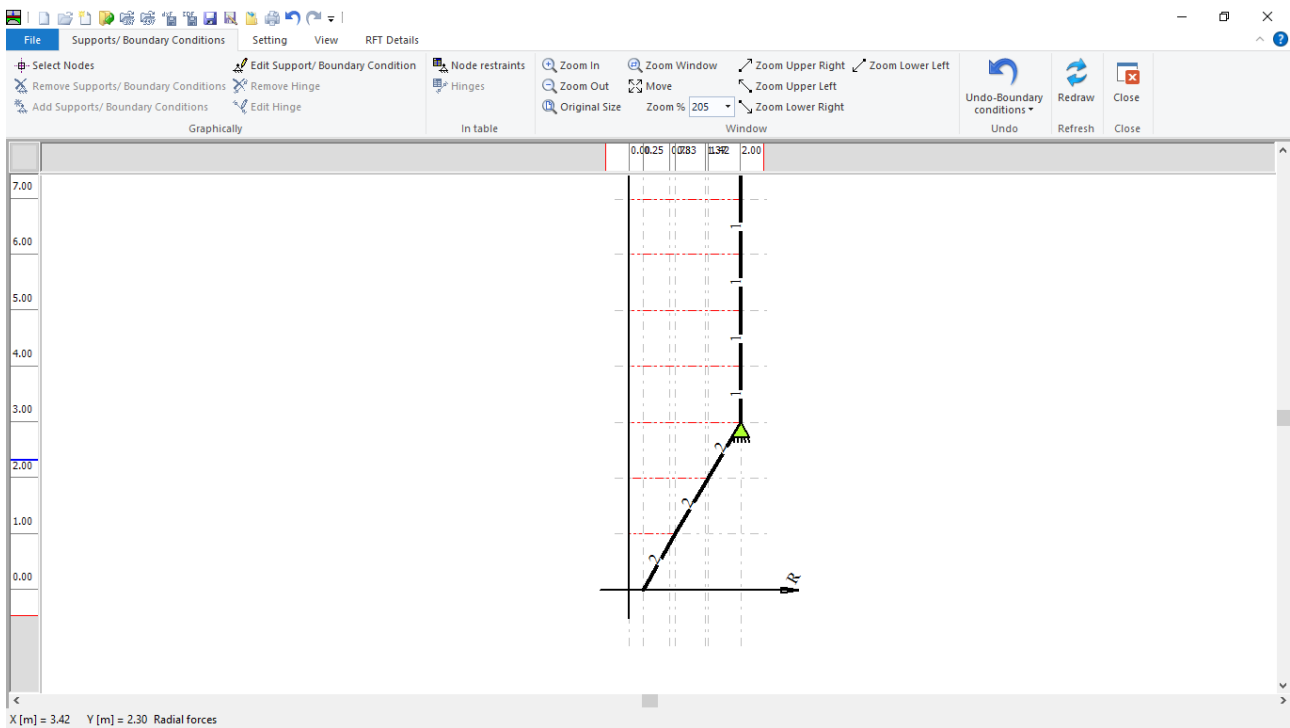

Figure 13.20 "Supports/ Boundary Conditions" window after defining the supports
- Choose "Save " command from "File" menu in Figure 13.20 to save the data of supports
- Choose "Close" command from "File" menu in Figure 13.20 to close the "Supports/ Boundary conditions" window and return to the main window